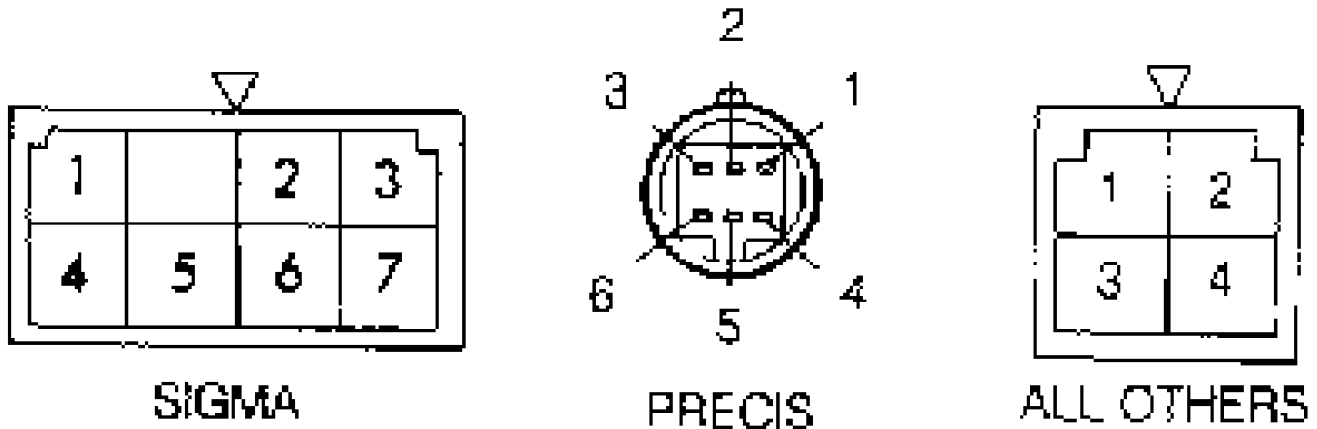

Fig. 1: Front Wiper Motor Terminal ID (Montero, Pickup & Ram-50)
Disconnect wiring connector from wiper motor. Connect battery voltage to appropriate wiper motor terminal, and ground other terminal. See WIPER MOTOR OPERATION CHECK table. See Fig. 1. Ensure wiper motor operates in both low and high speeds.
2) Using a jumper wire, connect 2 terminals indicated. See AUTOMATIC STOP CHECK table. See Fig. 1. Connect 12 volts to terminal indicated in table, and ground wiper motor bracket. Ensure motor parks wiper arm.